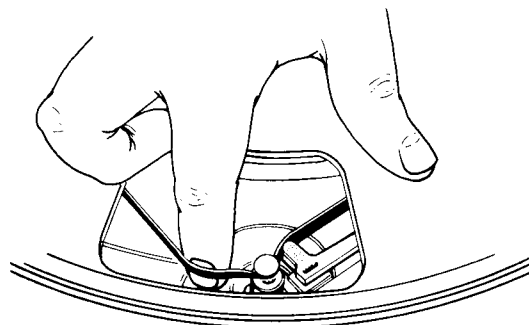

Figure 3
2. Put the Turntable on the Player Assembly Body. Loop the Belt around the Capstan and the Drive Rim, making sure that the Belt passes through the center of the belt guide. Make sure the Belt will be on the narrowest part of the Capstan when the Speed Selector Switch is on 33 1/3 r.p.m., and on the wide part when 45 r.p.m. See Figure 3 for looping the Belt.